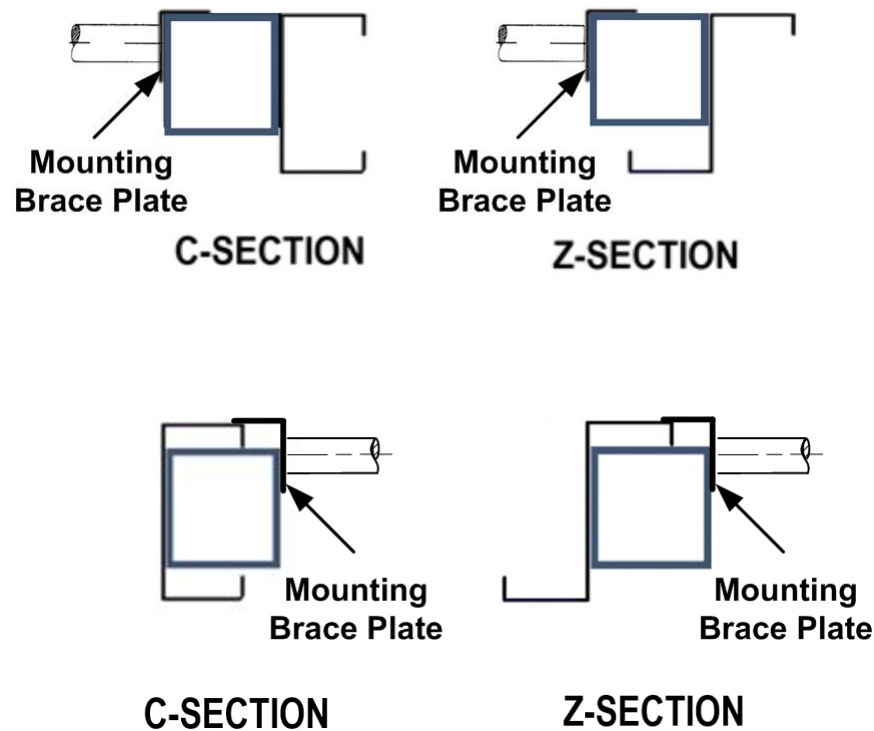

Figure 5
- Align one end of the SBSUT6 or SBSUT9 Mounting Braces onto the adaptor tube ensuring that the Mounting Brace plate is on the top of the Adaptor Tube and then screw the Mounting Brace onto the Adaptor Tube. Refer to Figure 5.